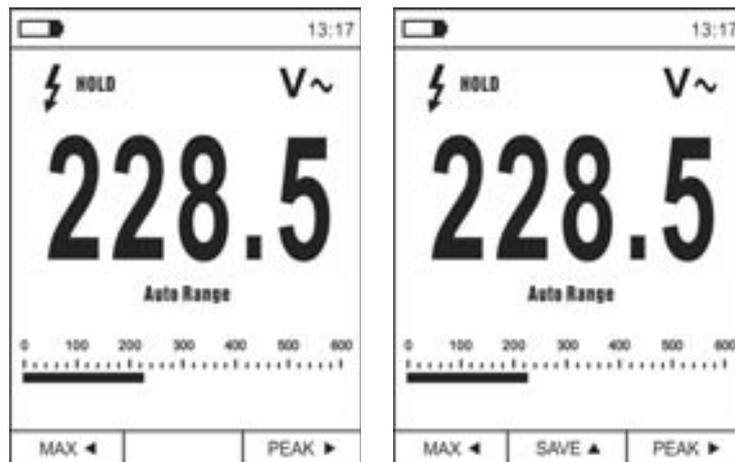

Fig. 7: Saving the value frozen on the display
1. Press key **HOLD/REL** to freeze the result. Message “HOLD” and **SAVE ▲** appears on the display (see Fig. 7 – right side)